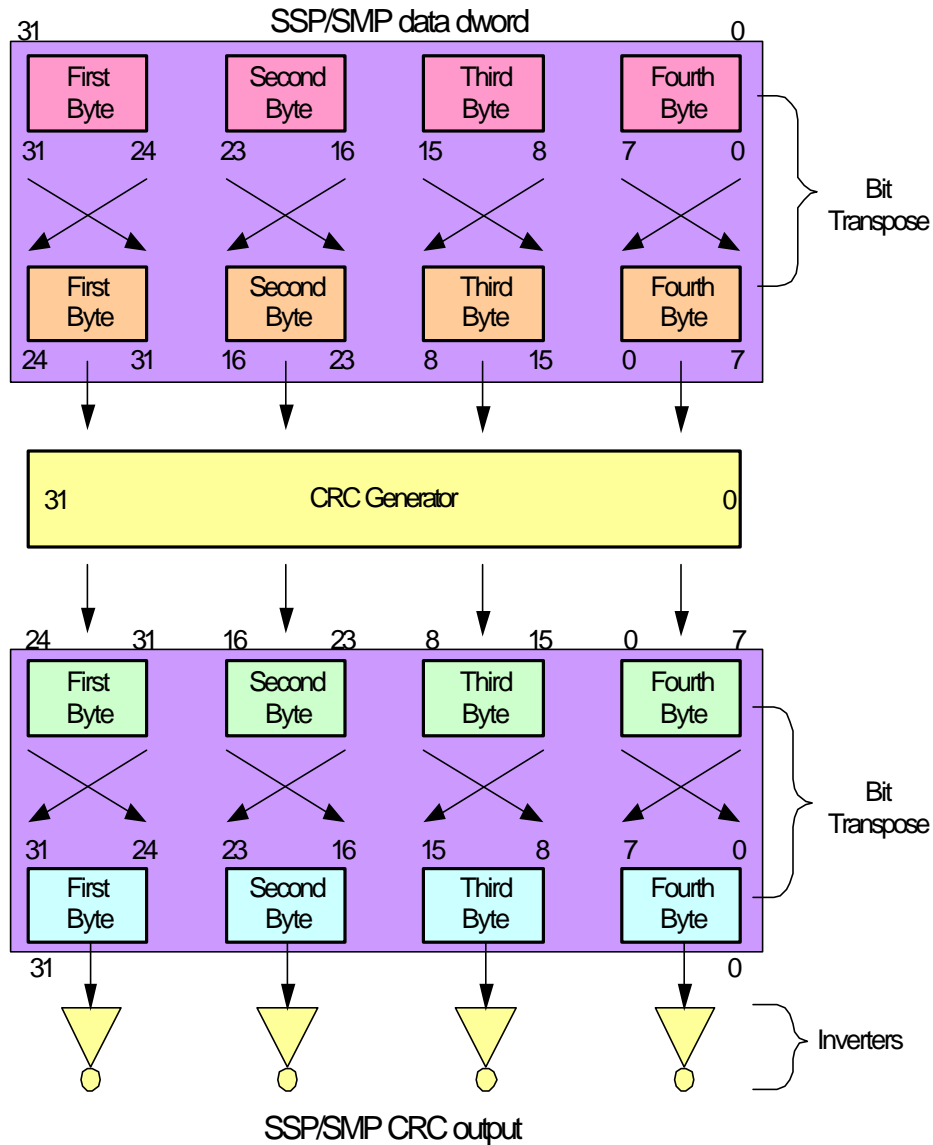

Figure 55 – SSP/SMP CRC generator/checker byte and bit order
2) Figure 55 is missing bit inversion at the output of the CRC generator. Propose to replace with the following figure which shows the outputs being inverted, and shows the bit ordering within each byte: